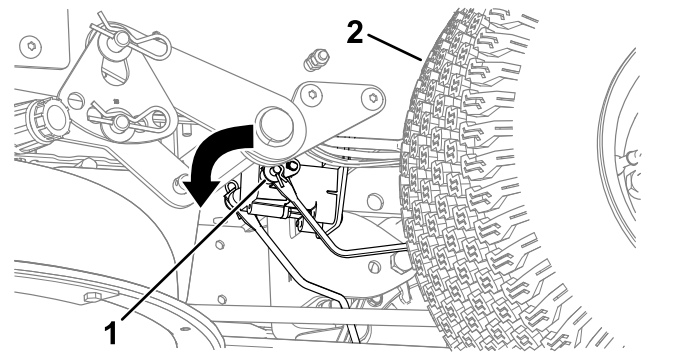

Figure 53
3. Locate the shaft on the electric brake where the brake link arms are connected (Figure 53).
4. Rotate the shaft to release the brake (Figure 53).